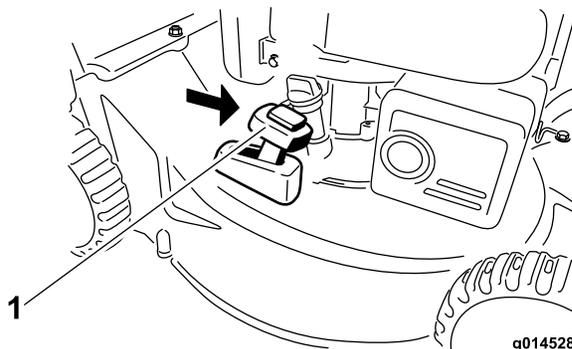

Figure 18
2. Install the grass bag; refer to Removing the Grass Bag \(page 10\) and move the bag-on-demand lever to the **bagging** mode (Figure 18).
Note: If the grass bag is on the machine, remove it before rear-discharging the clippings; refer to Removing the Grass Bag \(page 10\). The bag-on-demand lever should be in the **bagging** mode (Figure 18).